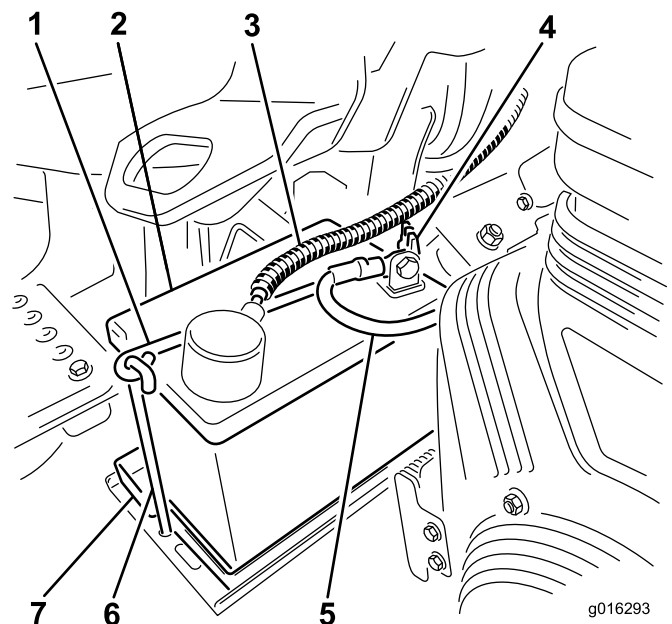

Figure 8
7. Place the battery on the battery tray and secure it with the battery clamp and fasteners removed previously (Figure 8).
8. Install the positive cable (red) to the positive (+) terminal and then the negative cable (black) to the negative (-) terminal of the battery and secure them with the bolts and nuts (Figure 8). Slide the rubber boot over the positive terminal to prevent a possible short from occurring.